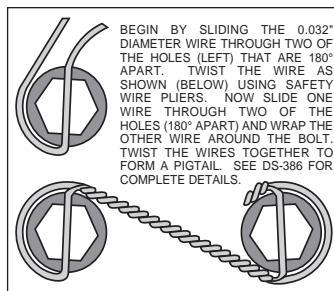

Figure 3. Safety Wire Diagram
- Orient the rotor (6) and the hat (7) as shown in Figure 1 and Photo 2. Attach rotor to hat using bolts (8), washers (9), and t-nuts (10), Figure 1. Follow additional instructions included with the bolt kit. Using an alternating sequence, apply red *Loctite*[®] 271 to the threads, and torque to 120 in-lbs. Safety wire bolts using standard 0.032 inch diameter stainless steel safety wire as shown in Figure 3. Refer to Wilwood's data sheet DS-386 (available at www.wilwood.com/Pdf/DataSheets/ds386.pdf) for complete safety wire installation instructions.